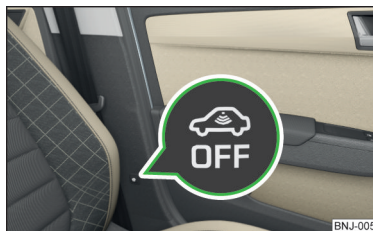

Fig. 36
- Press the  button on the centre column on the driver side » Fig. 36, the  symbol illuminates in the button.